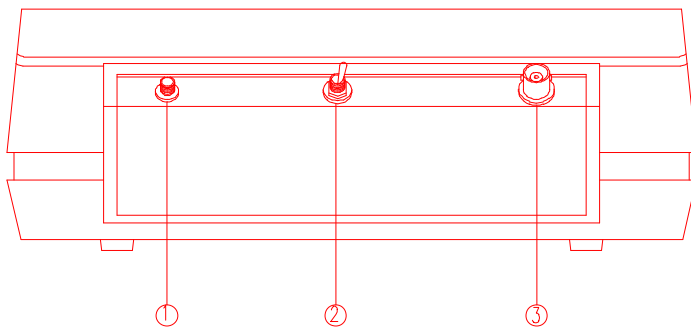

Figure 2 REAR VIEW
1. Connect the pH electrode to the rear of the instrument. (Refer to Figure 2.)
2. Set the MODE switch to STANDBY. Connect the AC adaptor to the AC line, make sure the correct AC adaptor is used. (Refer to Figure 2.)
7. Adjust the SLOPE control for the meter to indicate the value of the buffer 4.01, or 10.01, corresponding to the temperature set in step 6. (Refer to Figure 2 and Table 1.) Be sure to allow sufficient time for the pH electrode to reach temperature equilibrium with the buffer 4.01 or 10.01.